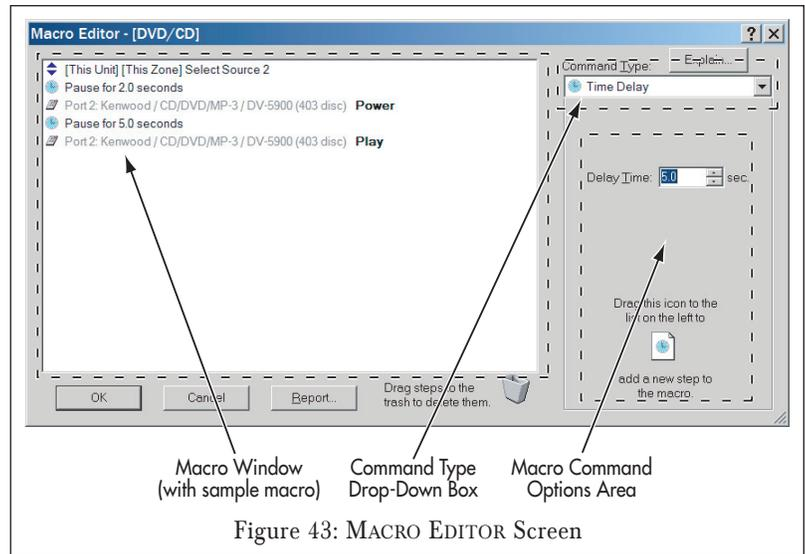

Figure 43: MACRO EDITOR Screen
- If the button has not been programmed with a macro (no MACRO INDICATOR appears on the button) select CREATE MACRO. The MACRO EDITOR screen will appear. See *Figure 43*, on page 33.
### The Macro Editor Screen (Figure 43)